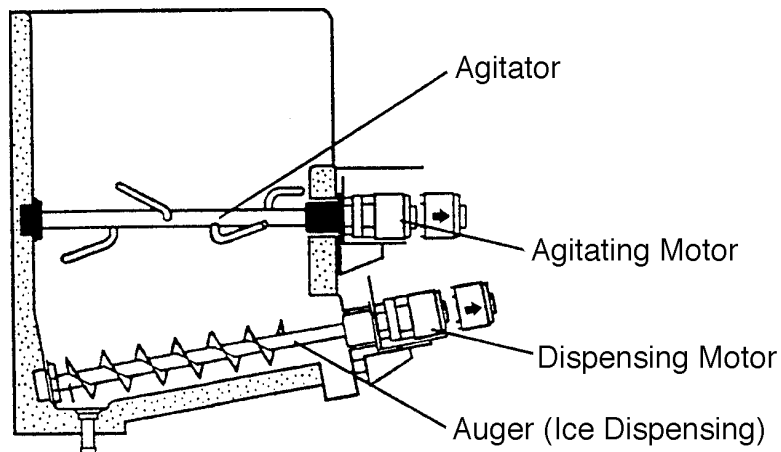

Fig. 7
4) Remove the thumbscrews, first from the vertical plane and then from the horizontal plane of the motor brackets. Move the agitating motor and the dispensing motor towards you. Then remove the agitator and the auger (ice dispensing). See Fig. 7.